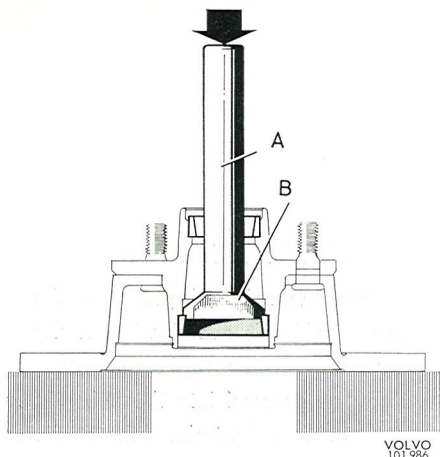
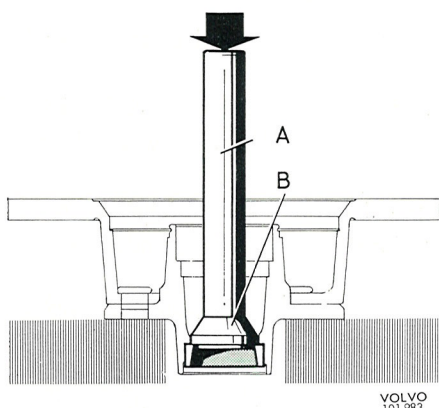

Fig. 7-17. Removing the inner bearing ring
Fig. 7-18. Removing the outer bearing ring
5. Remove the bearing rings. Use drift SVO 2724 (Fig. 7-17) for the inner bearing ring and drift SVO 2725 (Fig. 7-18) for the outer bearing ring together with standard handle SVO 1801.